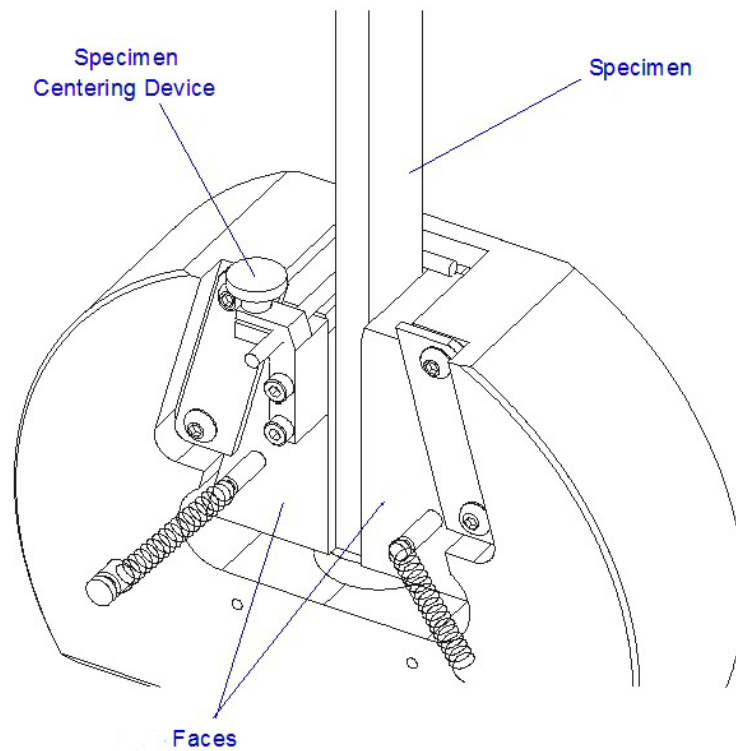

Figure 10. Specimen Placement
3. Position the specimen in the grips so it engages the entire length of the jaw faces. Figure 10 on page 37 illustrates proper specimen placement.